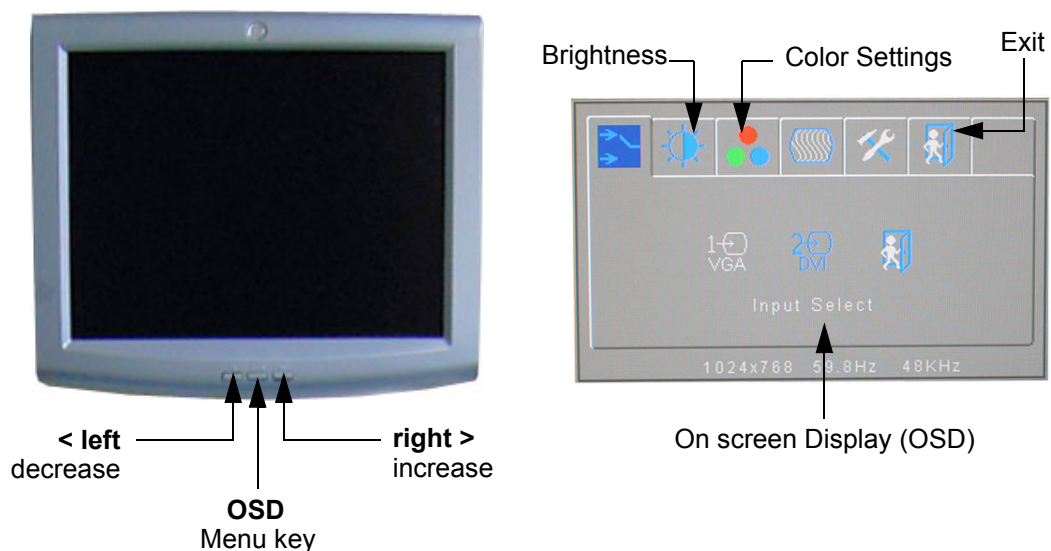

Figure 6-1 Monitor Adjustment buttons
- 1.) Press the **MENU** (middle) key (see: Figure 6-1 above) of the monitor controls (= toggle button for contrast and brightness).
- 1.) Press the **MENU** (middle) key (see: Figure 6-1 on page 6-2) of the monitor controls for at least 5 seconds. The expanded OSD menu opens.